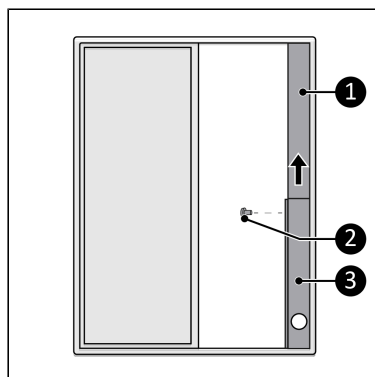

Figure 30.
3. Place the included window connector kit in the opening of the window (Figure 30, pos. 3).
4. Use the top part (Figure 30, pos. 1) to adjust to the height of the window. Attach the two parts in the right positions with the included dowels (Figure 30, pos. 2).